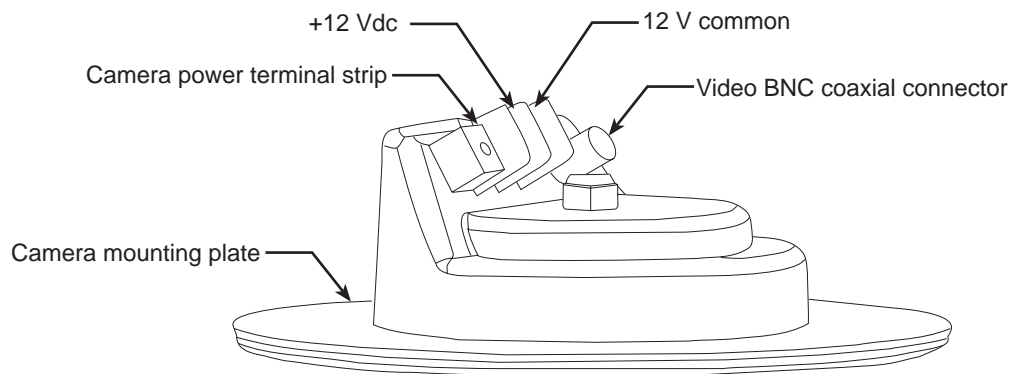

Figure 14. Camera mounting plate and power strip locations
8. Connect the +12 Vdc and 12 V common wires to the terminal strips on the camera mounting plate shown in figure 14.
9. Install the video cable BNC connector onto the video BNC coaxial connector on the camera mounting plate (see figure 14).
11. Connect the +12 Vdc and 12 V common wires to the terminal strips on the camera mounting plate shown in figure 14).
12. Install the video cable BNC connector onto the video BNC coaxial connector on the camera mounting plate (see figure 14).